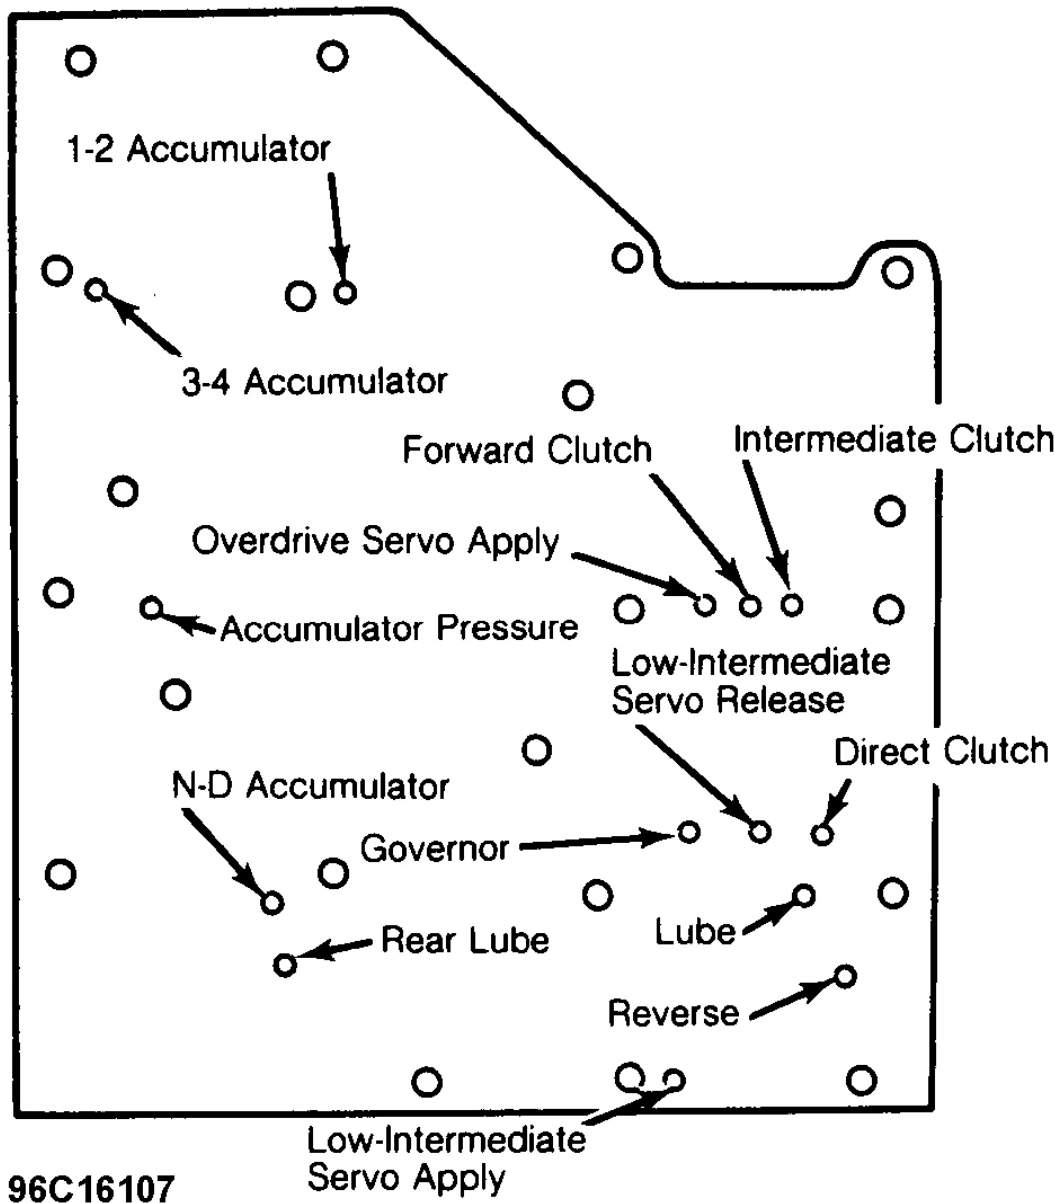

Fig. 6: Air Pressure Test Plate Locations
4. To perform air pressure tests, drain transaxle fluid and remove oil pan. Remove valve body cover, and oil pump and valve body assembly. Install Air Pressure Test Plate (T86P-7006-B) with valve body assembly-to-chain cover gasket. See **Fig. 6** .